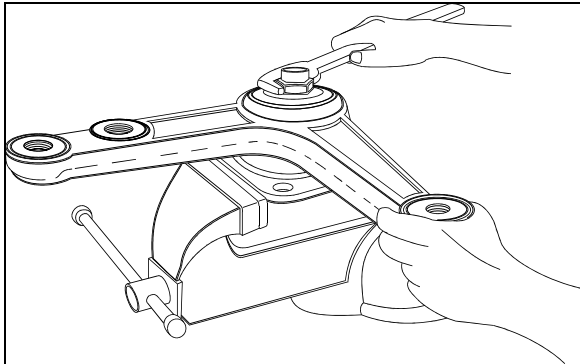

FIGURE 14: BELL CRANK 16044
3. Install bell crank or idler arm onto its mounting spindle, while holding the bell crank or idler arm, slide on the bearing assembly, thrust washer and secure using nut. (Fig. 14).